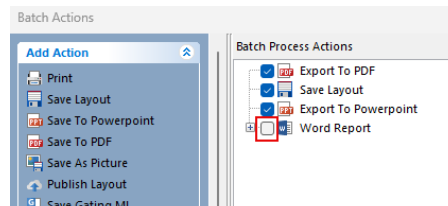

Figure 13 – Exporting the Microsoft Word Report
- a) By default, the Word Report batch action is unchecked. Checkmark the action if you wish to export a pre-designed Word Report (*Figure 13*).